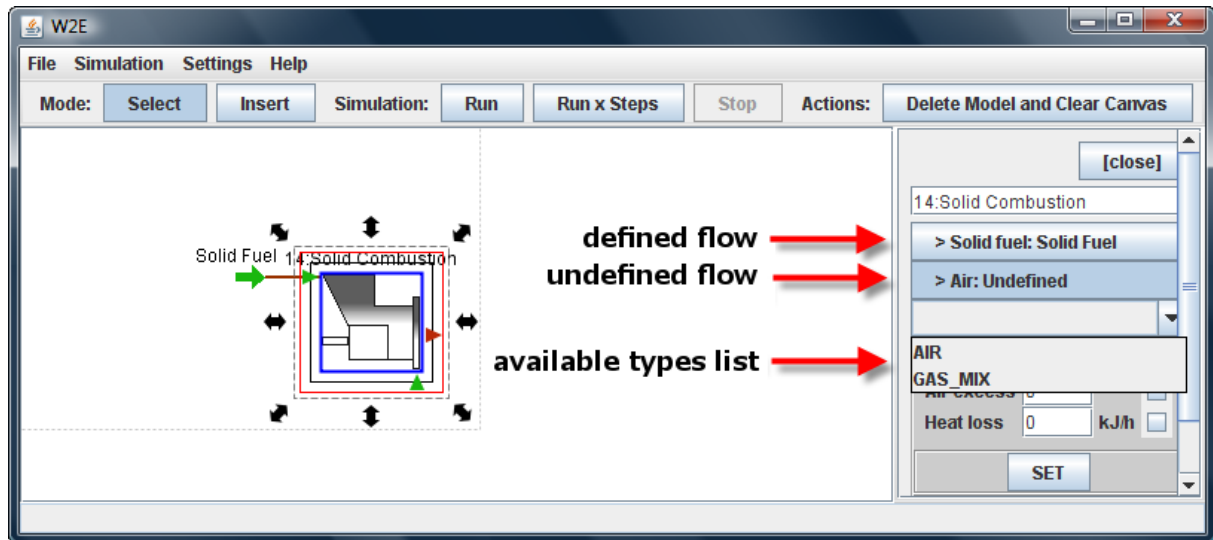

FIG. 6: Definition of input flows
- the section for defining and editing the input flows (Each input flow is represented by a button with its name. This button can be clicked which makes the details of the selected flow show on a panel right under the button. If the input flow is not defined its name will be set to *Undefined* on the button, see Fig. 6.)
2. Press one of the input flow buttons and the application will automatically generate the selected input flow, pre-setting its type to the first possible option. You can then click the flow type combo box to change current type to any other possible option. (Fig. 6). Proper selection will result in a change of the flow's name (displayed on the button) to current flow's type name. (We recommend changing the default flow name.)